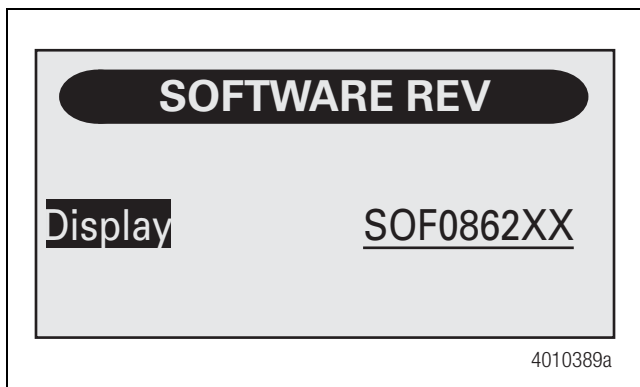

Figure 2.1
2. Press the "Mode" key on the display several times until the screen labeled "Software Rev" shown in Figure 2.1 appears.